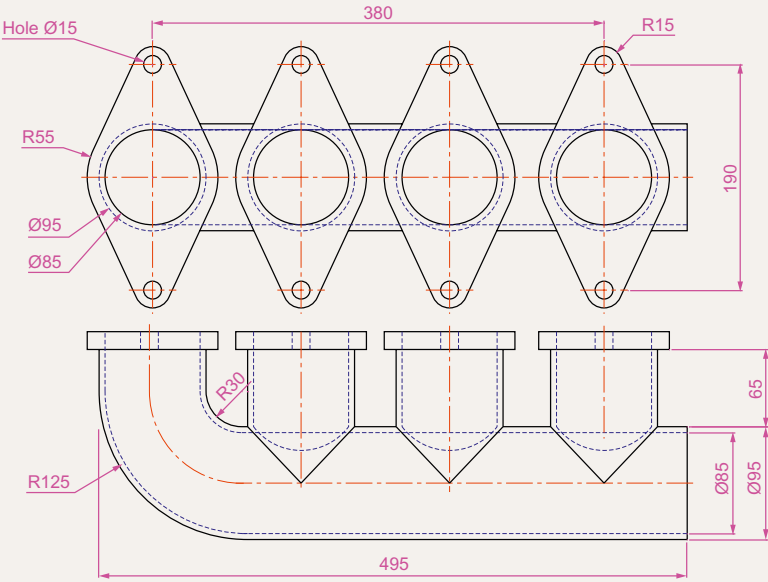
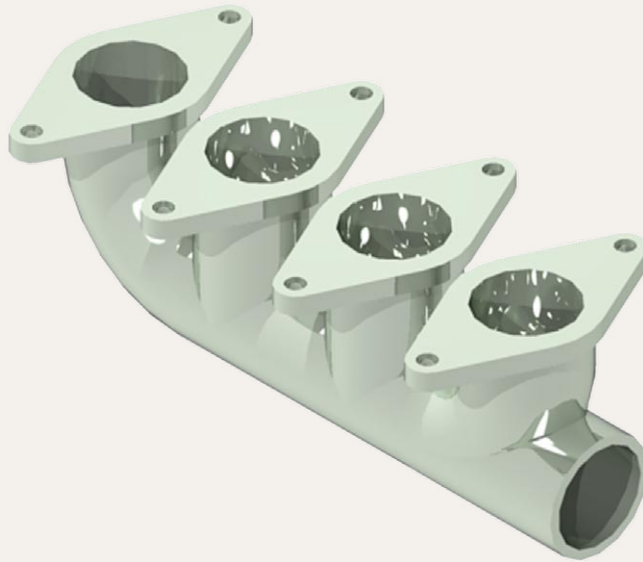

Fig. 19.22 Exercise 3
Fig. 19.23 Exercise 3 – ViewCube/Isometric view
3. Construct a 3D model drawing to the details given in Fig. 19.22. Add suitable lighting and apply a material, then render as shown in Fig. 19.23.